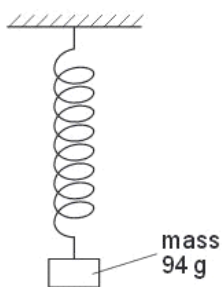
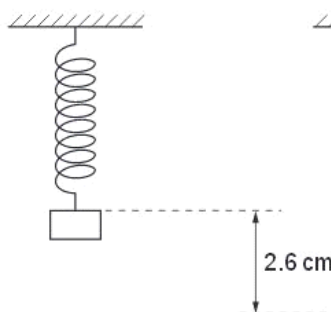
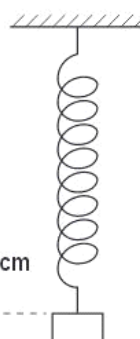

Fig. 5.1
Fig. 5.2
Fig. 5.3
- 5 A spring hangs vertically from a fixed point and a mass of 94 g is suspended from the spring, stretching the spring as shown in Fig. 5.1.
The mass is raised vertically so that the length of the spring is its unextended length. This is illustrated in Fig. 5.2.
The mass is then released. The mass moves through a vertical distance of 2.6 cm before temporarily coming to rest. This position is illustrated in Fig. 5.3.
- (a) State which diagram, Fig. 5.1, Fig. 5.2 or Fig. 5.3, illustrates the position of the mass such that
- (b) Briefly describe the variation of the kinetic energy of the mass as the mass falls from its highest position (Fig. 5.2) to its lowest position (Fig. 5.3).
For the mass moving between the positions shown in Fig. 5.2 and Fig. 5.3,